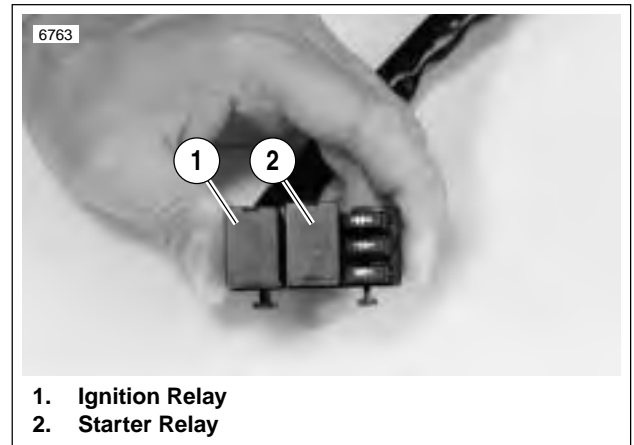

Figure 5-6. Starter Relay Block
- See Figure 5-6. Locate starter relay. The relay is attached to the relay block underneath the seat.